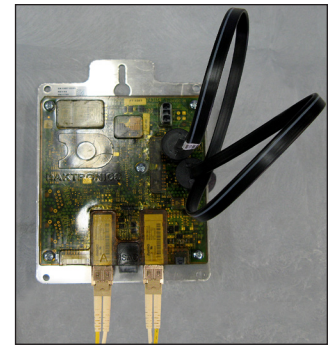

Figure 24: ProLink Router Connected For Self-Test
1. Connect a duplex fiber cable from Fiber Port A to Fiber Port B. Refer to **Figure 24**.